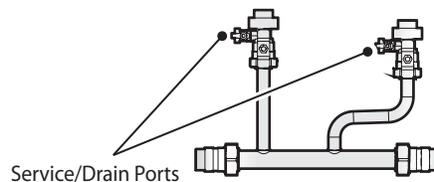

FIGURE 3. Available Ports on the NFC Series Primary Manifold
- Service and Drain ports are available on the service valves (see FIGURE 3).